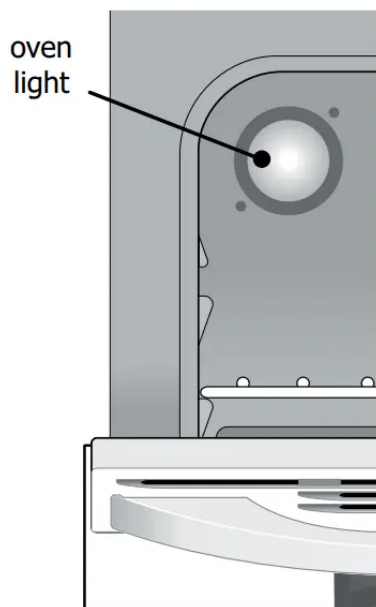

Figure 20: Oven light
1. The interior oven light is located at the rear of the oven cavity (Figure 20). Turn electrical power off at the main source or unplug the appliance.